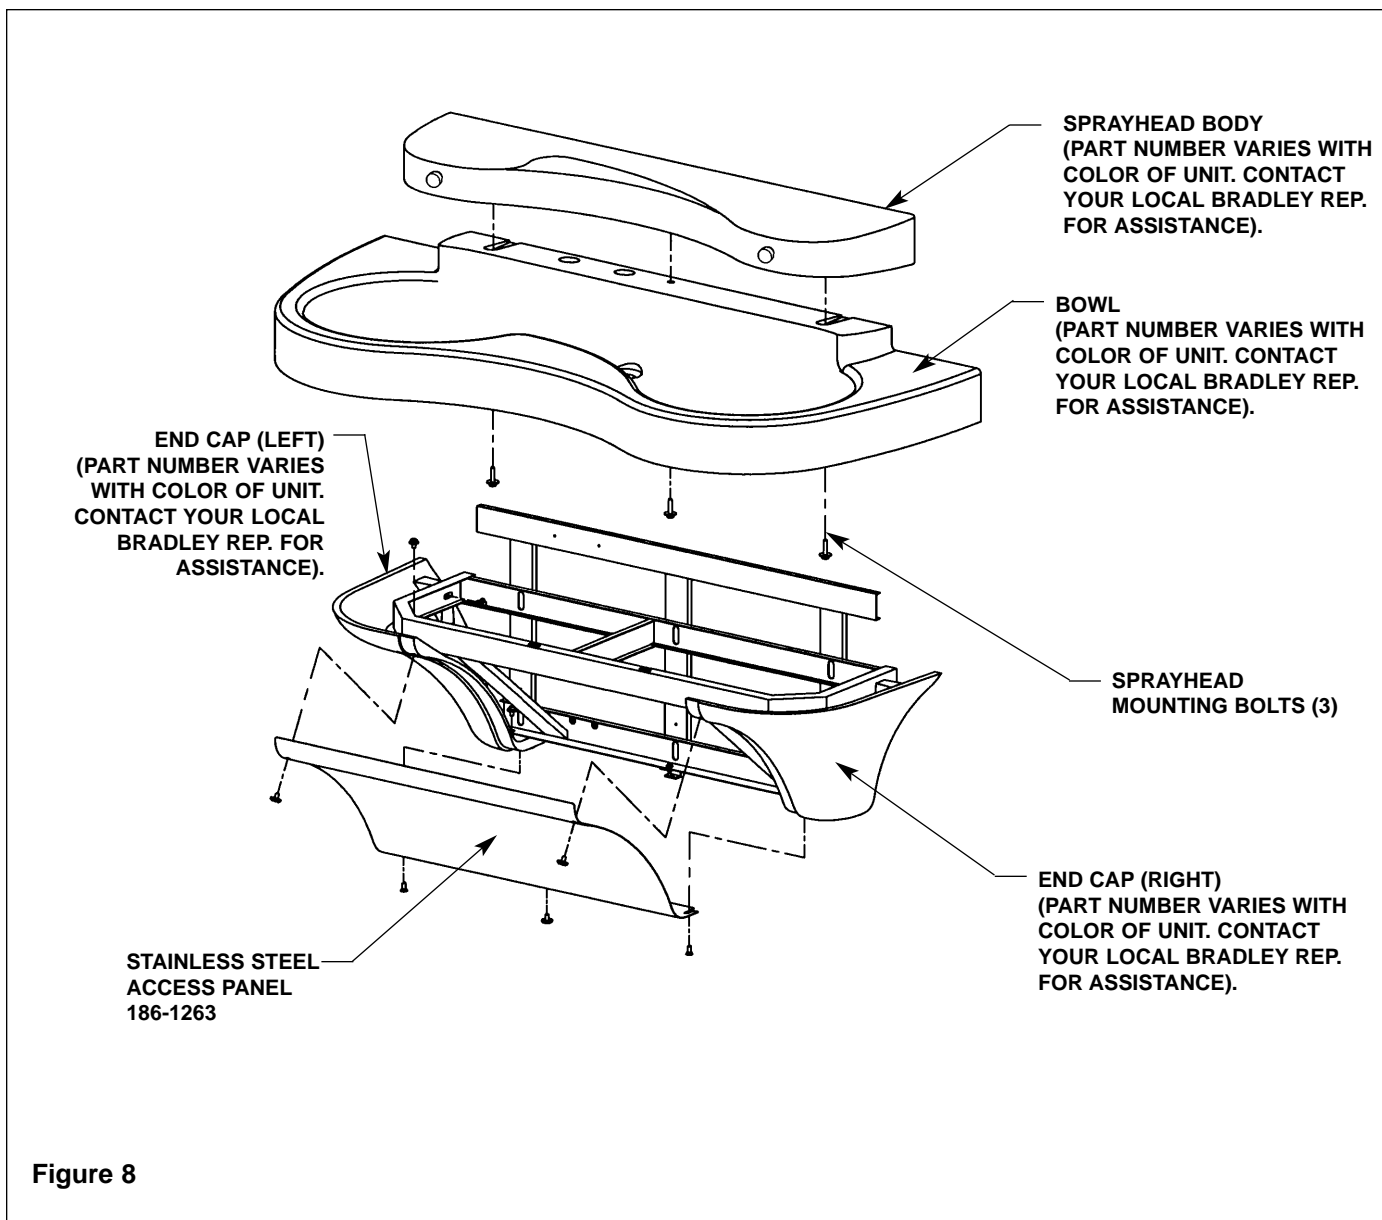

Figure 8
5. If necessary, adjust sprayhead body to fit closely to wall by adjusting sprayhead mounting bolts. See Figure 8 on page 14 for sprayhead mounting bolt locations.
Remove (3) bolts located underside of bowl neck (see Figures 8 and 10). Carefully remove sprayhead from bowl.